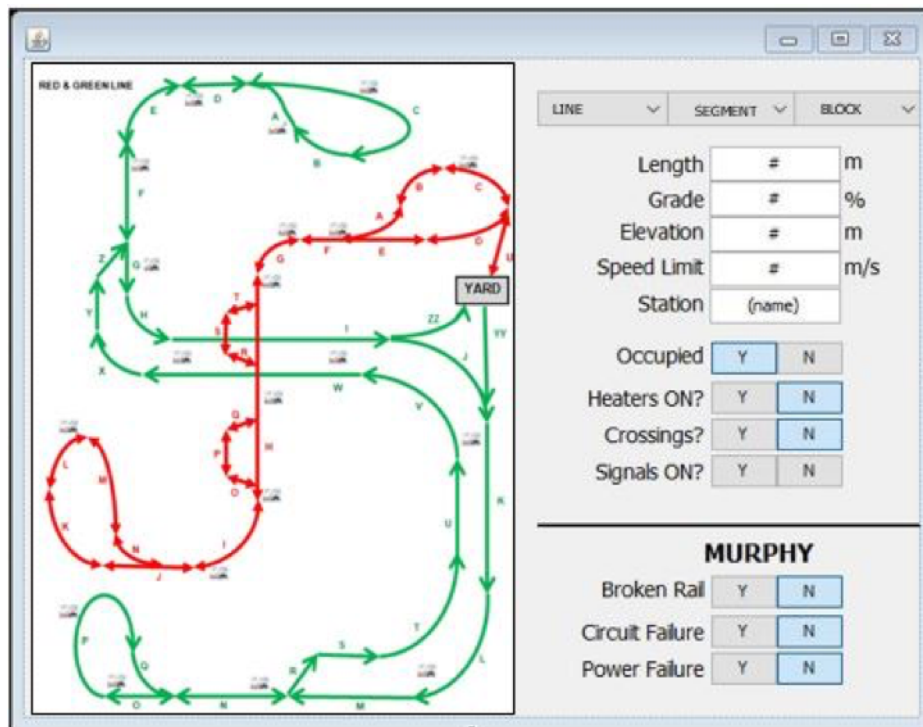

Figure 4: The current Track UI layout
- Set  $K_p/K_i$  - Allows the user to control the power constants,  $K_p$  and  $K_i$ . Clicking on this opens up Engineering Panel (Figure 4).